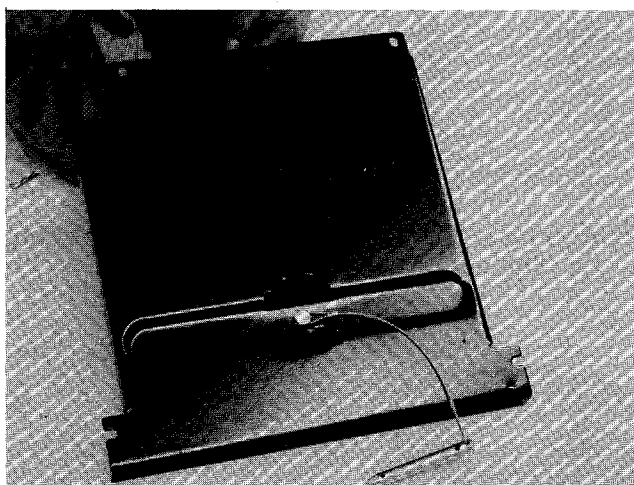

FIGURE 29.
2. Place the hitch bracket through the hitch plate. Secure with hex bolt (K), lock washers (L) and hex nut (M).
← Attach the looped end of hitch pin (O) under head of bolt. See figure 29.